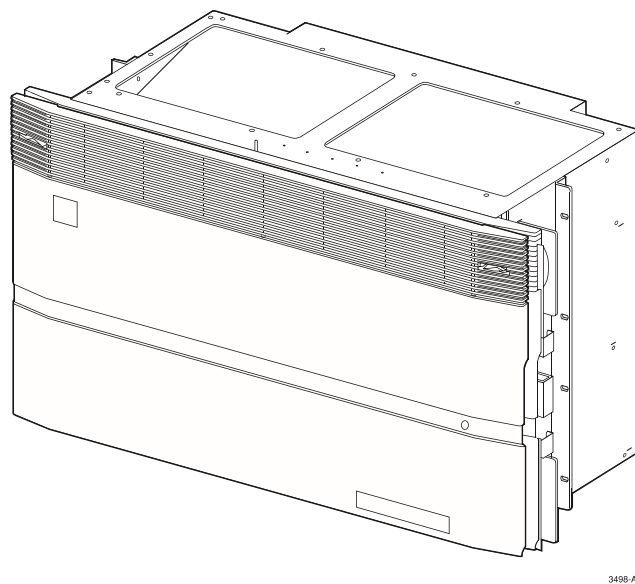

Figure 5-3. HDT Front Cover in Stored Position
3. Position the cover directly over the cover of a nearby HDT mounting shelf as shown in Figure 5-3.